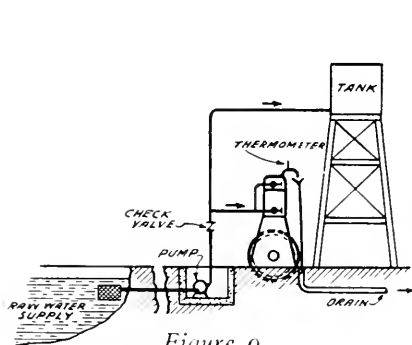
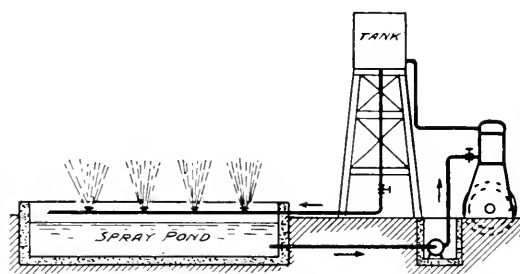

Figure 9.
Figure 11.
1. The continually wasting type (see Figures 9 and 14);
seasons of the year, contain large quantities of suspended matter which are deposited in the cylinder jacket as a soft mud. There have been many piston seizures, excessive cylinder distortions and cracked heads directly caused by a water source becoming suddenly very muddy after a long spell of heavy rains. This hazard is present in connection with the continually wasting type of open system, as shown in Figures 9 and 14, as well as with the recirculating type of open system shown in Figure 11.